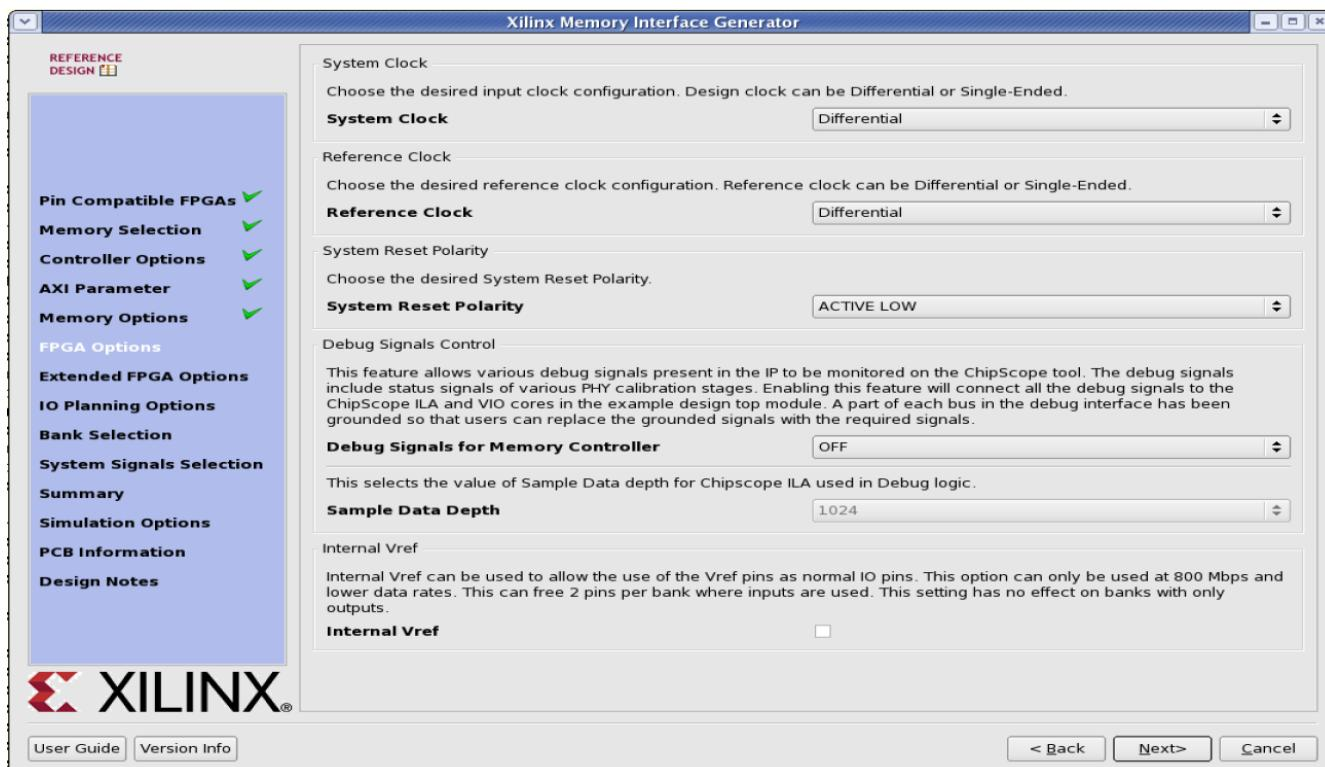

Figure 2-21: **FPGA Options Page**
Figure 2-21 shows the **FPGA Options** page.
- **sys\_clk** – This is the system clock input for the memory interface and is typically connected to a low-jitter external clock source. Either a single input or a differential pair can be selected based on the **System Clock** selection in the **FPGA Options** page (Figure 2-21). The `sys_clk` input must be in the same column as the memory interface. If this pin is connected in the same banks as the memory interface, the MIG tool selects an I/O standard compatible with the interface, such as DIFF\_HSTL\_I or HSTL\_I. If `sys_clk` is not connected in a memory interface bank, the MIG tool selects an appropriate standard such as LVCMOS18 or LVDS. The XDC can be modified as desired after generation.
- **clk\_ref** – This is the reference frequency input for the IDELAY control. This is a 200 MHz input. The `clk_ref` input can be generated internally or connected to an external source. A single input or a differential pair can be selected based on the **System Clock** selection in the **FPGA Options** page (Figure 2-21). The I/O standard is selected in a similar way as `sys_clk` above.
- **sys\_rst** – This is the system reset input that can be generated internally or driven from a pin. The MIG tool selects an appropriate I/O standard for the input such as LVCMOS18 and LVCMOS25 for HP and HR banks, respectively. The default polarity of sys\_rst pin is active-Low. The polarity of sys\_rst pin varies based on the **System Reset Polarity** option chosen in **FPGA Options** page (Figure 2-21).